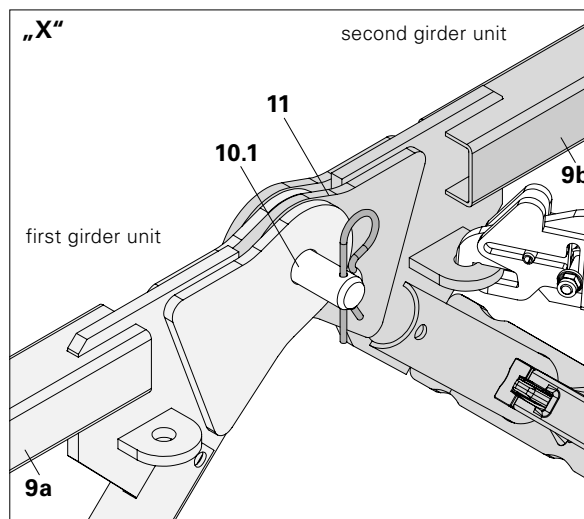

Fig. A1.16a
1. Join together the lugs of the Ridge Element. Ensure that the tube (9a) of the first girder unit is aligned with the tube (9b) of the second girder unit. (Fig. A1.16a)
2. Secure Bolts (10.1) and Cotter Pins (11) – from the outside to the inside – in the holes of the head plates. → Secured connection. (Fig. A1.16a)